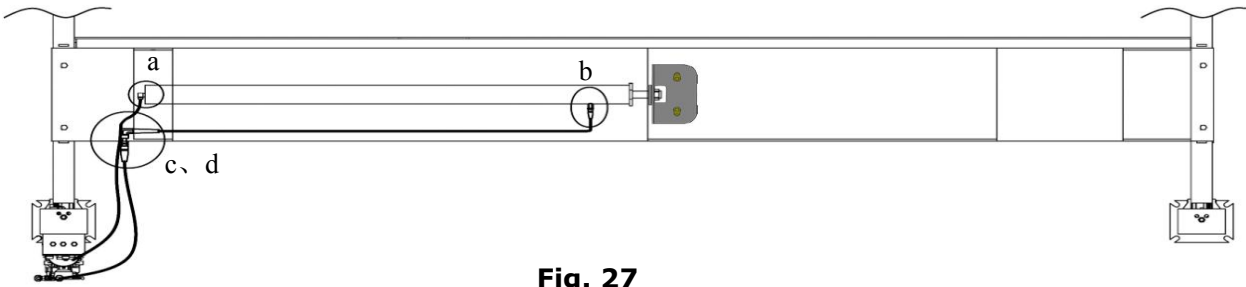

Fig. 27
2. For power unit attached to the column of cross beam **B** (See Fig. 27).